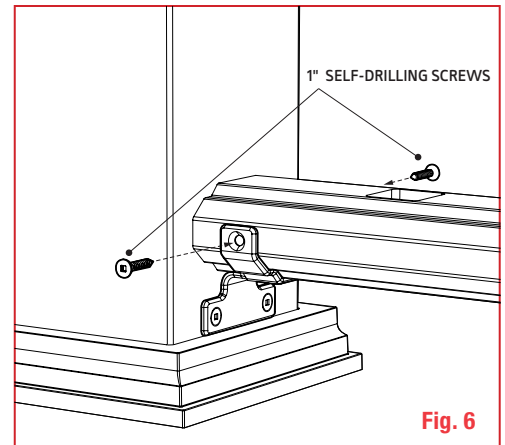

Fig. 6
**7** Insert bottom rail into the bottom rail brackets, making sure the rail is fully nested in the bracket and that the bottom rail is level. Secure the bottom rail in place by installing two self-drilling 1" screws provided in the Marquee Straight Bracket Kit on each side of the brackets. (Fig. 6)
- 9 Align the top rail over the Balusters, and install the Balusters one at a time into the prerouted holes. Ensure the top rail is fully nested and parallel with the bottom rail at the desired angle. Position the top rail brackets on the rail, center the bracket on the post, and mark the bracket locations on each post. (Fig. 6)